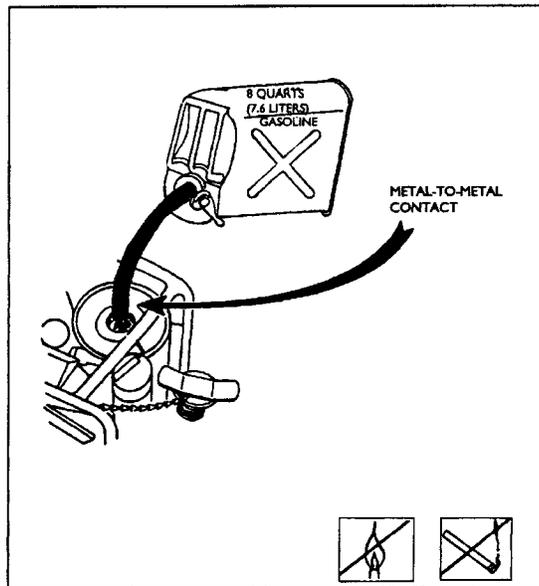

Figure 3-6. Metal to metal contact
- (1) Maintain metal-to-metal contact between the fuel tank and the end of the fuel nozzle. (See Figure 3-6.)